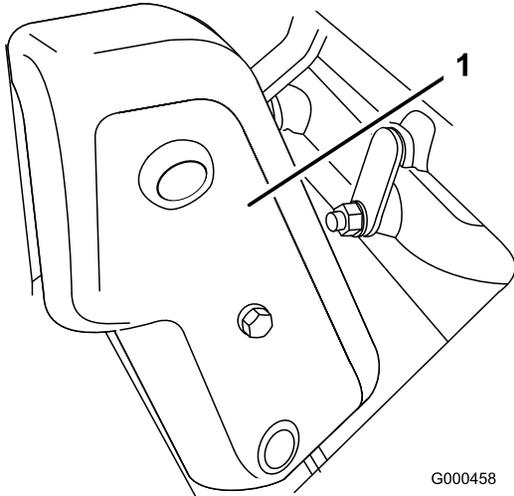

Figure 40
1. Remove the belt cover mounting fasteners and belt cover to expose belt (Figure 40).